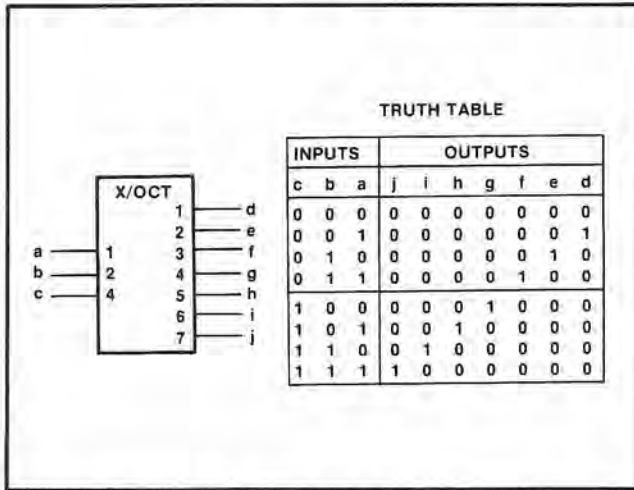

Figure 8-28. An X-Octal Code Converter
b. Replacing Y by an appropriate indication of the output code and labeling the outputs with characters that refer to this code as in Figure 8-28.